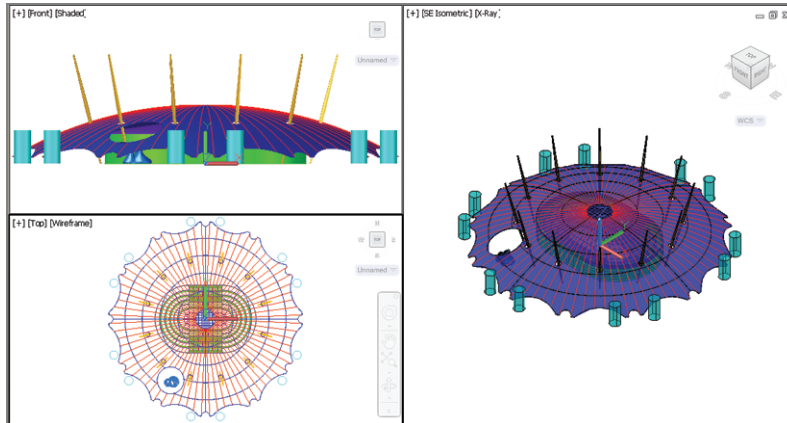

FIGURE 16.9 Three viewports, each displaying a different view and visual style
3. Click anywhere inside the viewport showing the front view to activate it. Open the in-canvas Visual Style Controls menu in this viewport and select **Shaded**. Click anywhere inside the viewport showing the top view to activate it. Open the in-canvas Visual Style Controls menu in this viewport and select **Wireframe**. Click OK. Figure 16.9 shows the result.